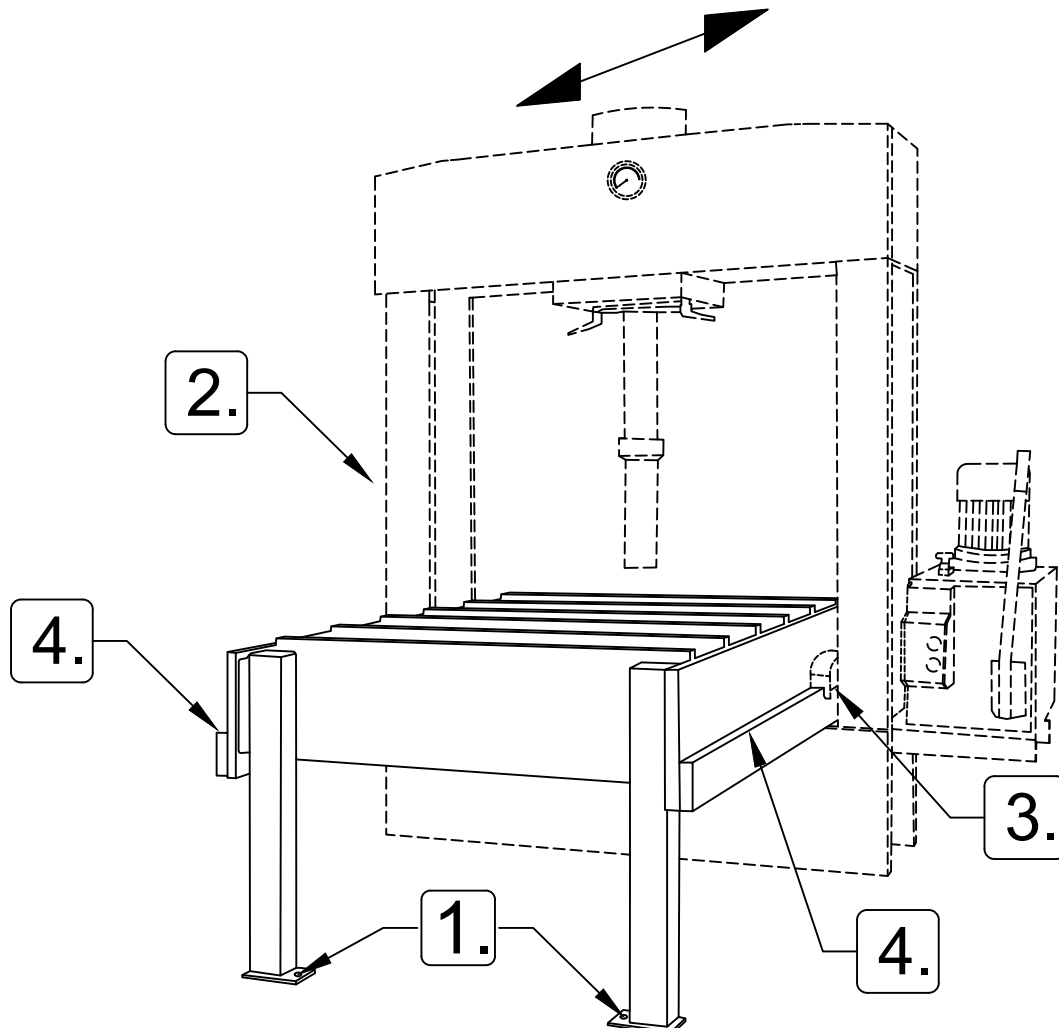

Fig. 15 Moving the cylinder front-to-back.
In Figure 15 below, the dotted lines (2) represent the parts of the press that actually move. On both sides, the rollers (3) ride on a ledge (4) that is welded to the table.